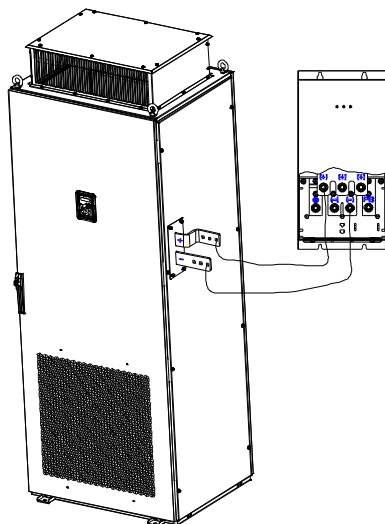

Figure 4-20 Connection diagram between VFD and external braking unit
- Step 2 Connect the external braking unit as shown in Figure 4-20.